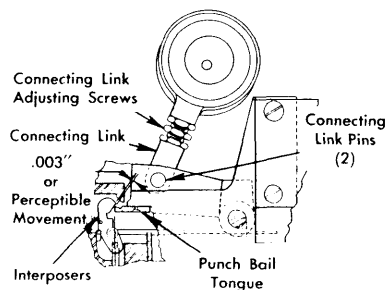

Figure 40. Punch Bail Connecting Link Adjustment
## ADJUSTMENT (FIGURE 40)
- d. Check for .003" interposer to punch bail tongue clearance with the punch bail at its upper limit of travel (Figure 40). Adjust the punch bail connecting links to obtain this clearance. Repositioning the magnet unit always affects this clearance.
### PUNCH BAIL CONNECTING LINKS (FIGURE 40)